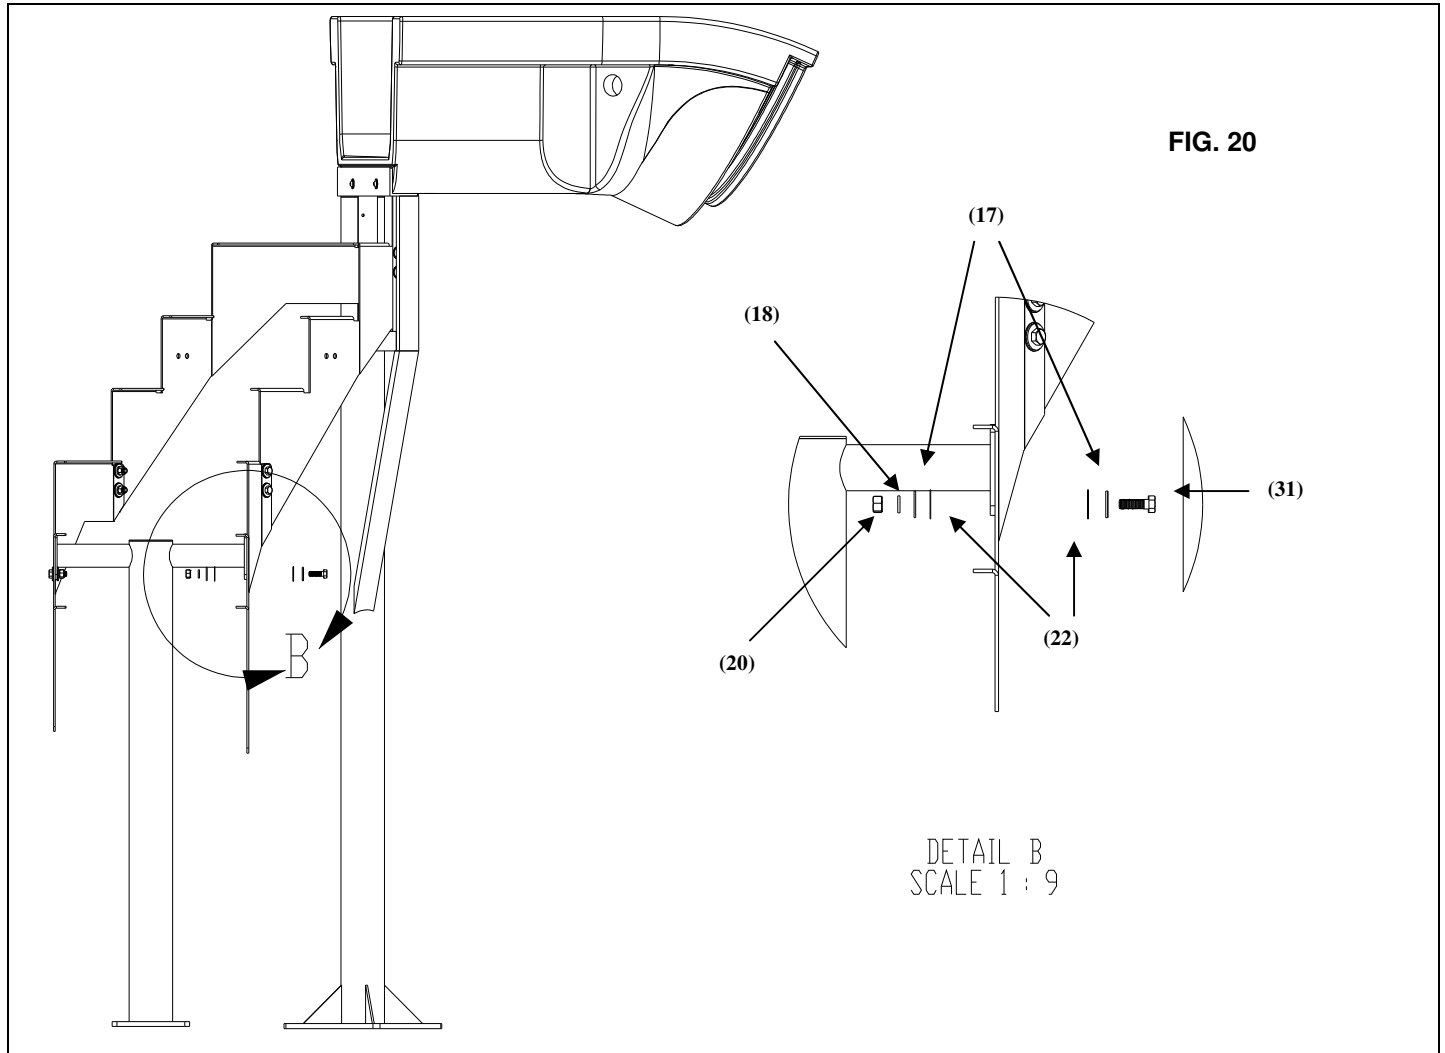

FIG. 20
3) Move the Middle Stair Support (48) into place as shown in Figure 20. Align the holes in the Middle Support bracket with the holes in the stair brackets. Next, attach the Middle Support to the stair brackets as shown in Figure 17, Detail A. The required hardware is as follows: 1/2" x 1.5" Hex Head Bolt (31), 1/2" Flat Washer (17), 1/2" Nylon Washer (22), 1/2" Nylon Washer (22), 1/2" Flat Washer (18), 1/2" Lock Washer (20), 1/2" Hex Nut (22). This should be done for both sides of the support.